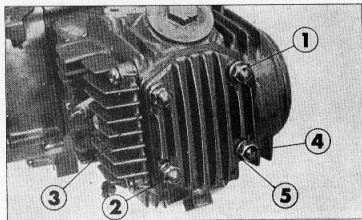

Figure 24. ①~④ Torquing sequence ⑤ Sealing washer
3. The position of the cylinder head nuts is ①, ② and ③ for the blind nut, and ④ for the plain nut. Do not omit the sealing washer ⑤ on the ④ position. (Fig. 24)
4. When torquing down the cylinder head, tighten the nuts uniformly in a diagonal sequence as shown in the Fig. 24 and torque to the final specified torque value of 6.5-9 ft-lb (90-120 kg-cm).